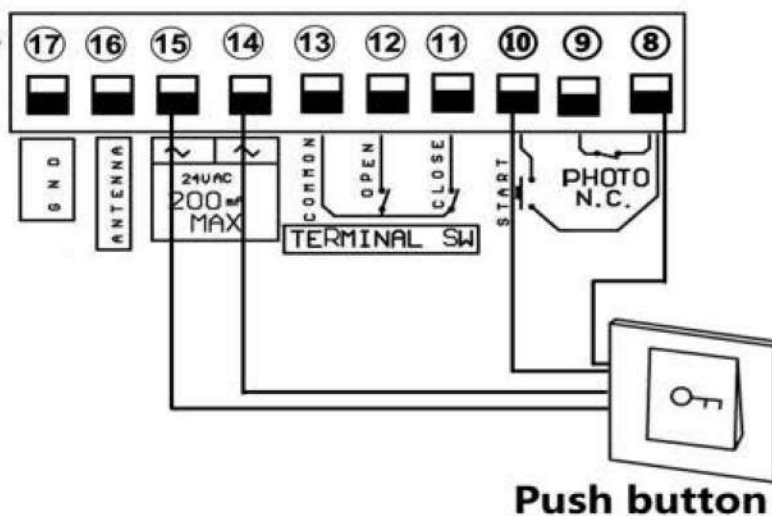

Fig 11
6.5.Connect to open device. (Please see Fig 11)